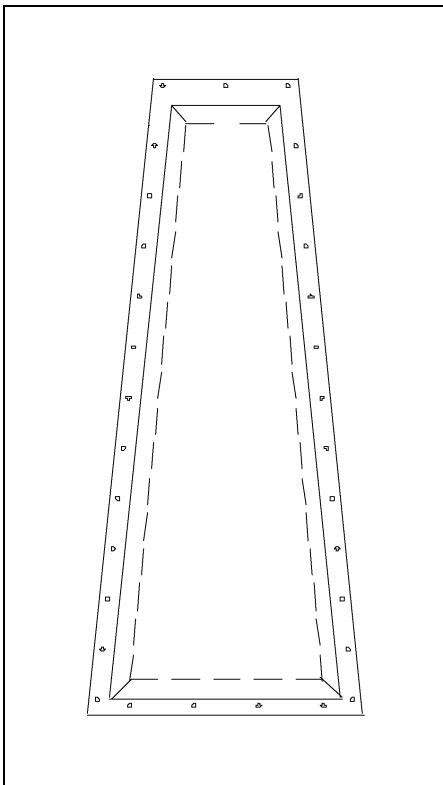

Figure 5F *The Cutline for Roof Sheet Adaptor.*
5. Mark a cutting line 3/4" inside the template. Then remove template. Drill through the mark, cutting a hole in the roof sheet (*See Figure 5F*).